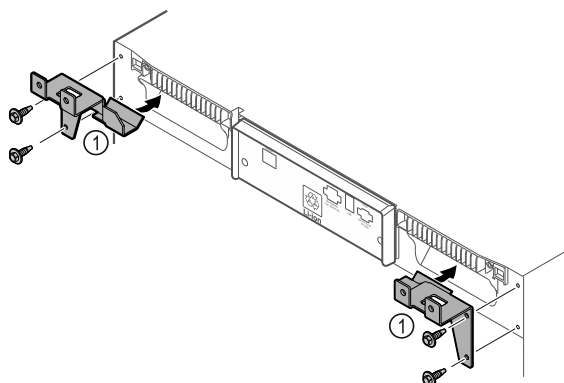

Fig. 8
- Mount retaining parts Fig. 8 (1) on the appliance using the supplied screws.